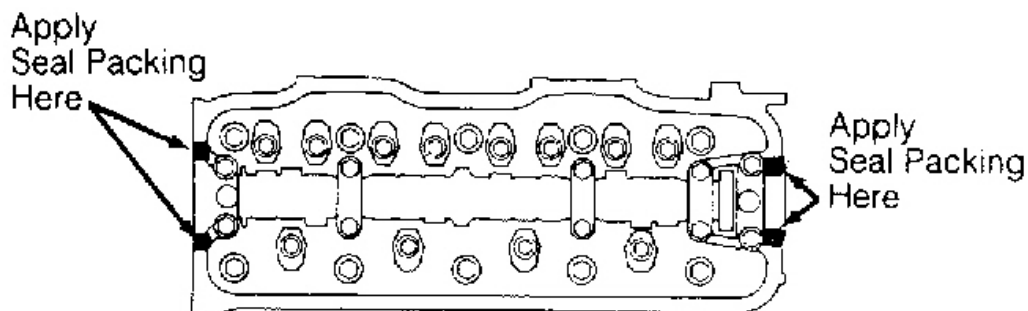

Fig. 5: Applying Seal Packing to Cylinder Head
4. Refill engine oil and cooling system. Set valve clearance. See **VALVE CLEARANCE ADJUSTMENT**. When installing valve cover, apply seal packing to cylinder head. See **Fig. 5**. Tighten all bolts to specification. See **TORQUE SPECIFICATIONS** table. Set ignition timing and idle speed. Start engine and check for leaks.
4. To complete the installation, reverse removal procedures. When installing valve cover, apply seal packing to cylinder head. See **Fig. 5** .
3. Pull rocker arm up and down. Ensure there is spring tension on rocker arm and rocker arm does not rattle. To complete installation, reverse removal procedures. Adjust valves. See **VALVE CLEARANCE ADJUSTMENT**. When installing valve cover, apply seal packing to cylinder head. See **Fig. 5**.
4. To complete the installation, reverse removal procedure. When installing valve cover, apply seal packing to cylinder head. See **Fig. 5** .